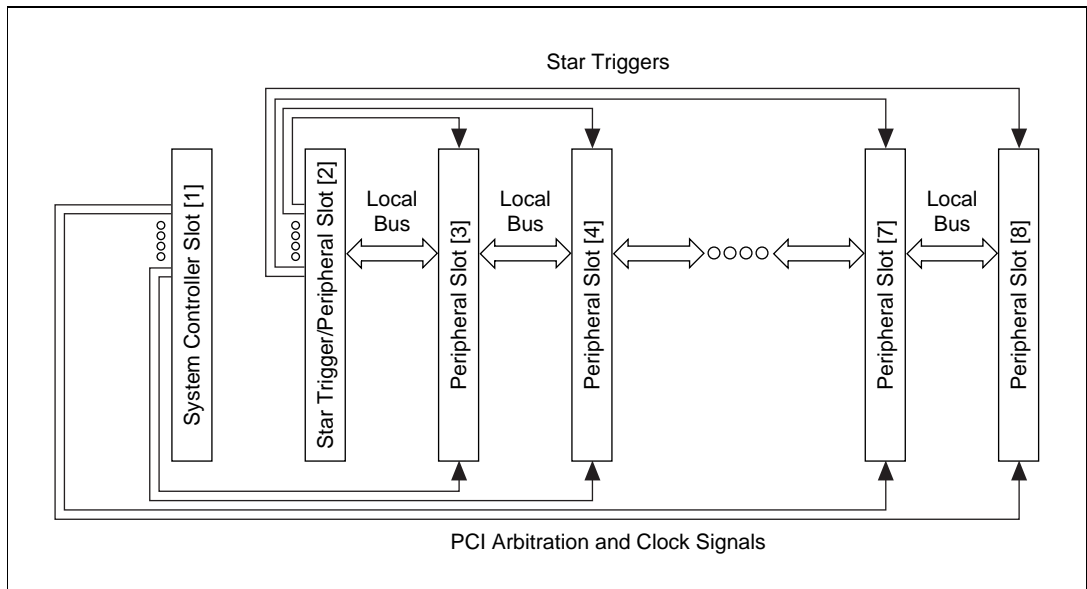

Figure 1-4. PXI Local Bus and Star Trigger Routing
The Star Trigger (ST) slot is located at Slot 2. This slot has a dedicated trigger line between each peripheral slot (see Figure 1-4). This slot is intended for modules with ST functionality that can provide individual triggers to all other peripherals. However, if you do not require advanced trigger functionality, you can install any standard peripheral module into this slot.
The PXI backplane's local bus is a daisy-chained bus that connects each peripheral slot with its adjacent peripheral slots to the left and right, as shown in Figure 1-4.